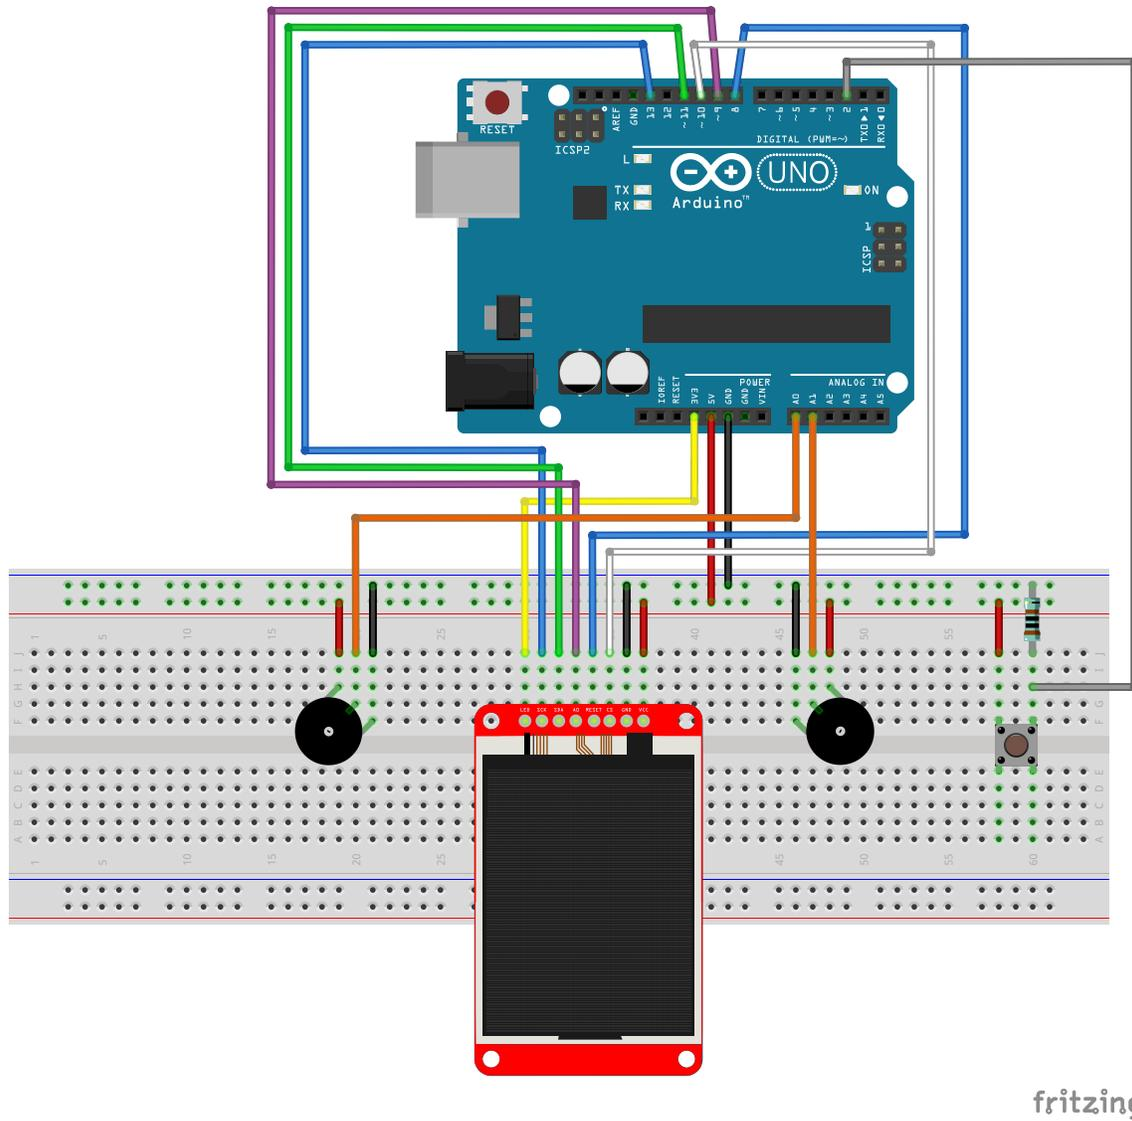

Figure 5.1: Circuit representation for the TFT Etch-a-Sketch project.
5. Connect the TFT display as shown in Figure 5.1. The pins are labeled as follows from left to right with the screen facing up: "LED", "SCK", "SDA", "A0", "RESET", "CS", "GND", "VCC". The labels shown in the figure are the same as those on the bottom of the display provided in the kit. The wiring connections to the Arduino are shown in Table 5.1. The "GND" and "VCC" pins are connected to the negative and positive power rails on the breadboard, respectively.